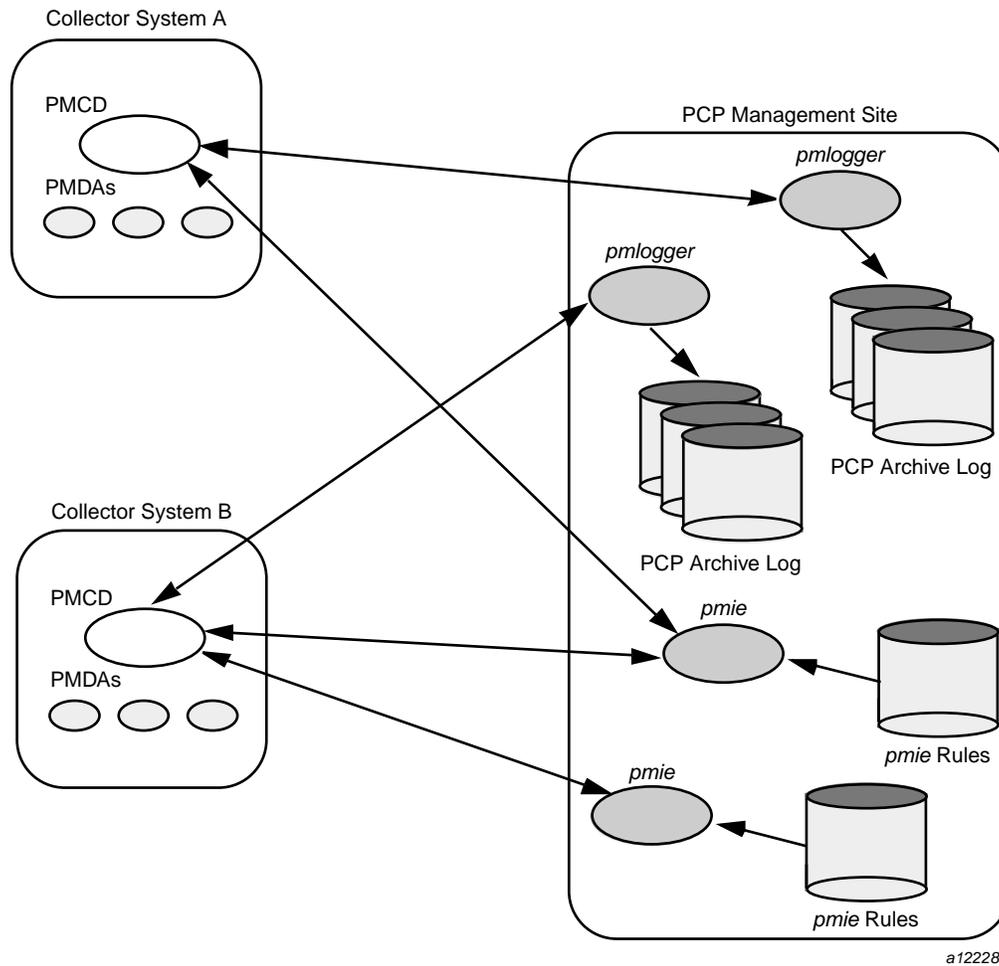

Figure 40. PCP Management Site Deployment
- As an example of the “distributed management with centralized control” philosophy, designate some system to act as the PCP Management Site to run all `pmlogger` and `pmie` instances. This arrangement is shown in Figure 40.
One `pmie` instance is capable of monitoring multiple PCP collector systems; for example, to evaluate some universal rules that apply to all hosts. At the same time a single PCP collector system may be monitored by multiple `pmie` instances; for example, for site-specific and universal rule evaluation, or to support both tactical performance management (operations) and strategic performance management (capacity planning). Both situations are depicted in Figure 40.
These considerations favor a centralized `pmie` deployment at a small number of PCP monitor sites, or in a PCP Management Site as shown in Figure 40.